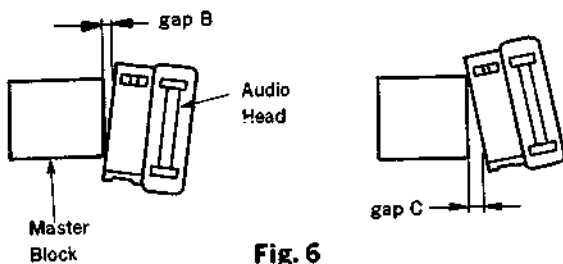

Fig. 6
(8) Turn the azimuth adjustment screw so that gaps B and C satisfy the specification. (Fig. 6)
(9) Confirm that the zenith specification is satisfied.